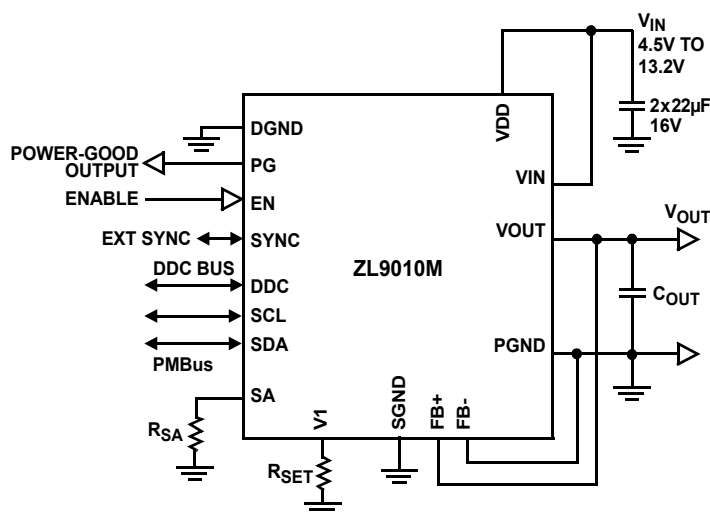

FIGURE 1. TYPICAL APPLICATION CIRCUIT
Figure 1 represents a typical implementation of the ZL9010M. For PMBus operation, it is recommended to tie the Enable pin (EN) to SGND.